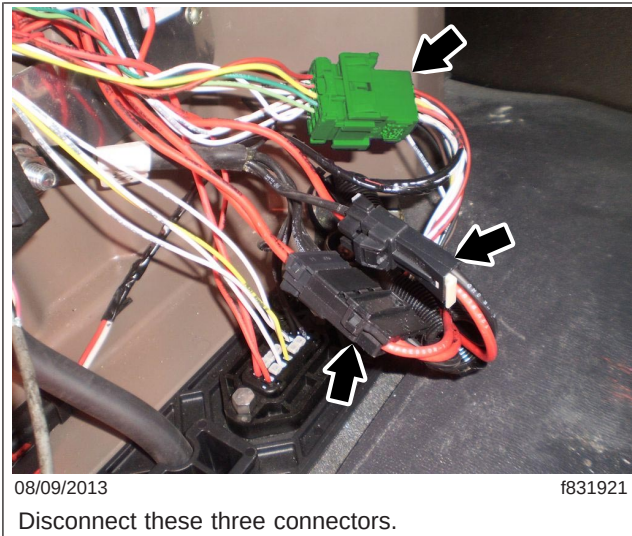

Fig. 2, Electrical Center, Vehicles with DDC O/I
11. On vehicles with DDC O/I, disconnect the three connectors on the harness coming from the unit at the ParkSmart electrical center. See Fig. 2.